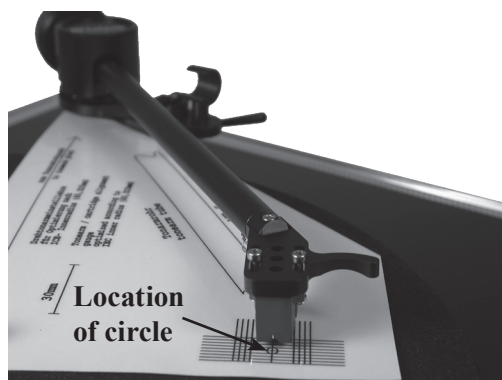

Figure 22
3. With the Anti-Skate Adjustment set to minimum (refer to figure 32), carefully place the Tone Arm onto the Alignment Gauge with the diamond tip of the stylus on the center of the small circle located between the parallel lines. Refer to figures 22 and 23.